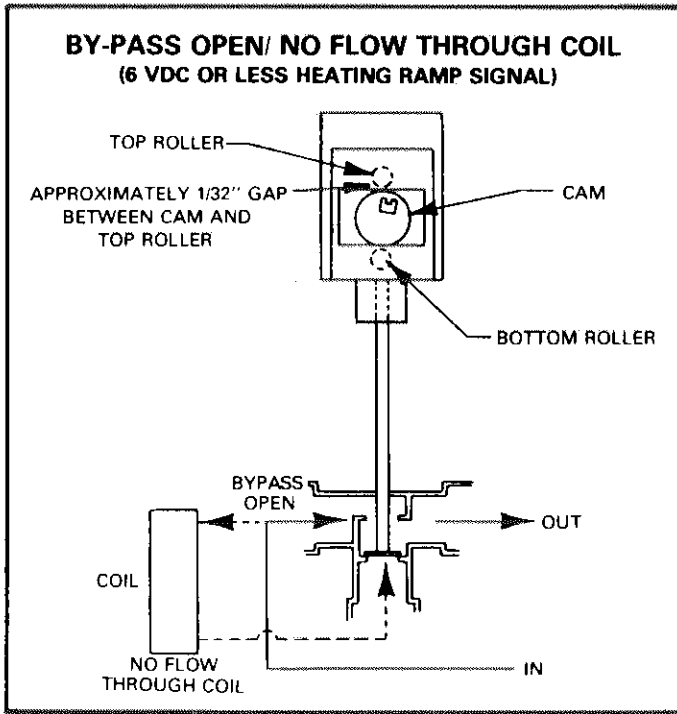
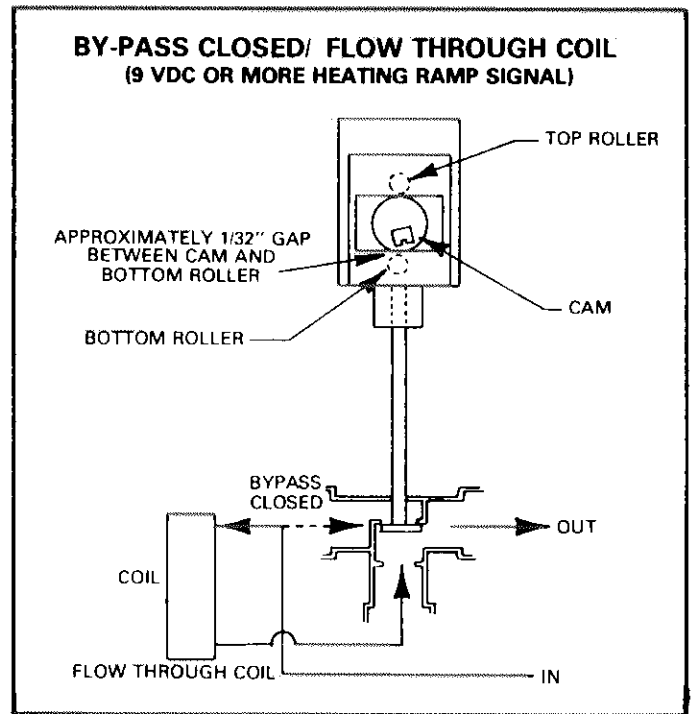

FIGURE 22
FIGURE 23
- 1 - The logic panel modulates the motor in response to the heating ramp signal. the range is 6 to 9 VDC. Figure 22 shows the motor and valve at 6 VDC or less. Figure 23 shows the motor and valve at 9 VDC or more.
- 2 - The motor includes a spring return feature. On a loss of power the motor opens the valve to coil to allow water flow, thus preventing freezing. The motor and valve are positioned as shown in Figure 23.
- 1 - Remove leads from terminal 5 at logic panel. Put a jumper across terminals "C" and "F" at motor. Valve motor shaft should rotate clockwise, raising valve stem. Refer to Figure 23.
- 2 - Remove jumper previously installed. Valve motor shaft should rotate counter-clockwise, lowering valve stem. Refer to Figure 22.
- 3 - Remove lead from "TR" terminal at motor. Valve motor shaft should spring return clockwise, raising valve stem. See Figure 23. With the valve in this position, the by-pass line is closed and water will flow through coil.